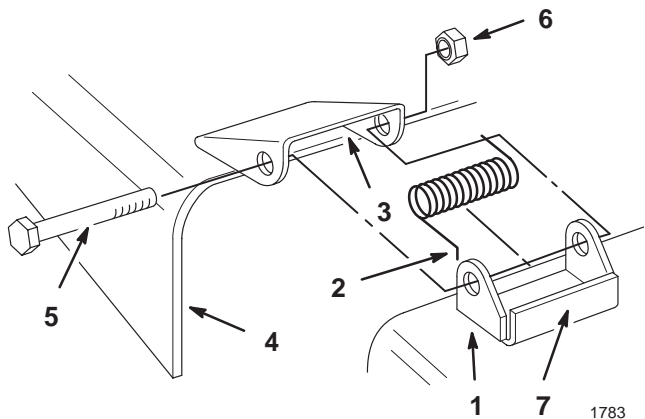

Figure 2
1. Place the springs into the brackets on mower with the hooked ends over the raised back (Fig. 2).
2. Align the grass deflector with the holes in the brackets and the spring straight end in the space under the hinge and above the deflector (Fig. 2).
3. Secure the deflector to the bracket with 2 bolts (3/8 x 3-1/2 inch) and 2 locknuts (3/8 inch) (Fig. 2).